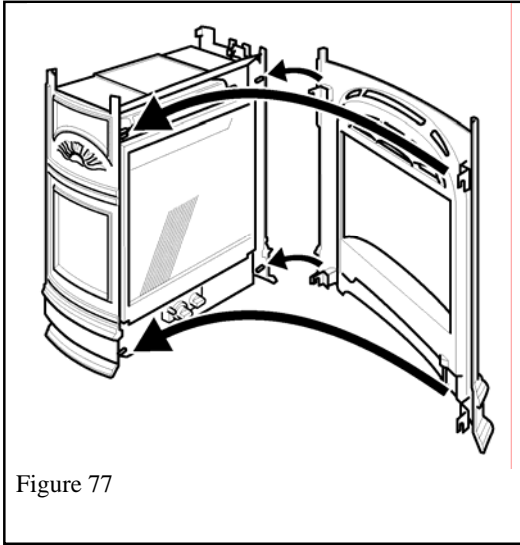

Figure 77
1. Hang the front casting by the hooks at the four corners as shown in figure 77.